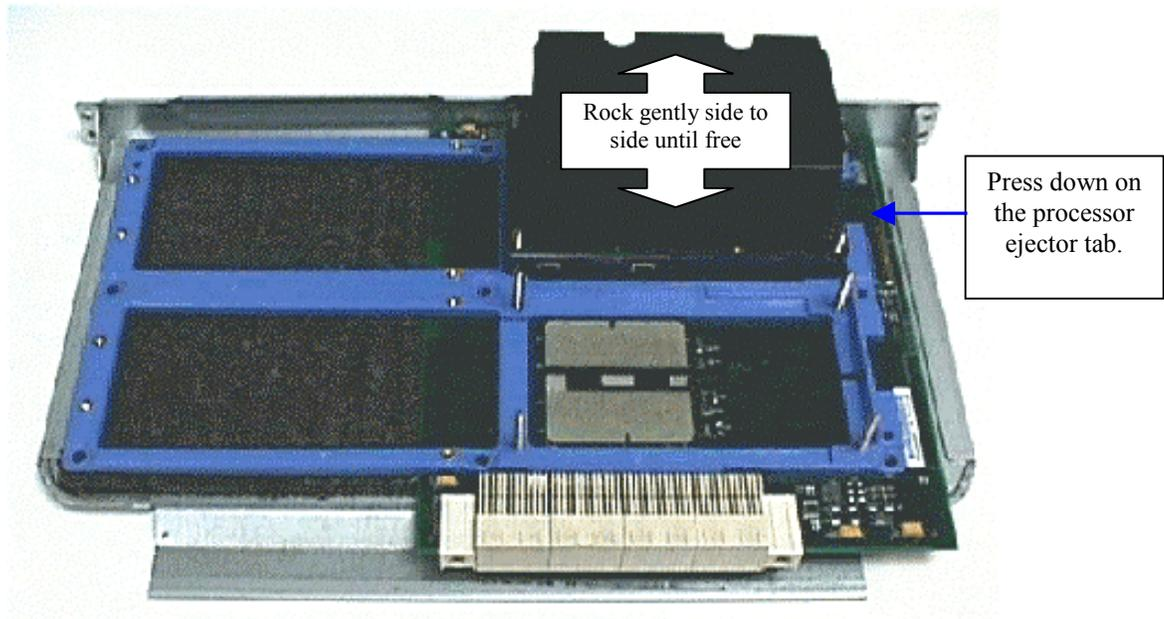

Figure 9. Removing the Processor
3. After the Power Pod has been completely removed, remove the four- (4) processor retaining nuts from the retaining studs at the base of the Intel® Itanium™ processor. Set them safely aside.
4. Grasping the heat sink on the processor, while depressing firmly on the black processor ejector tab, gently rock the processor side-to-side until freed from the LIF socket. Refer to Figure 9.